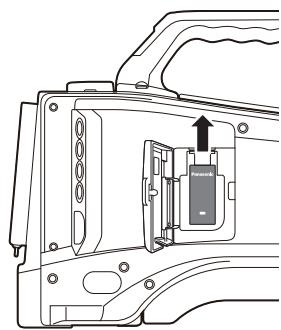

Fig. 3
**3** Securely attach the wireless module to the <USB2.0> terminal (sub-host). (Fig. 3)